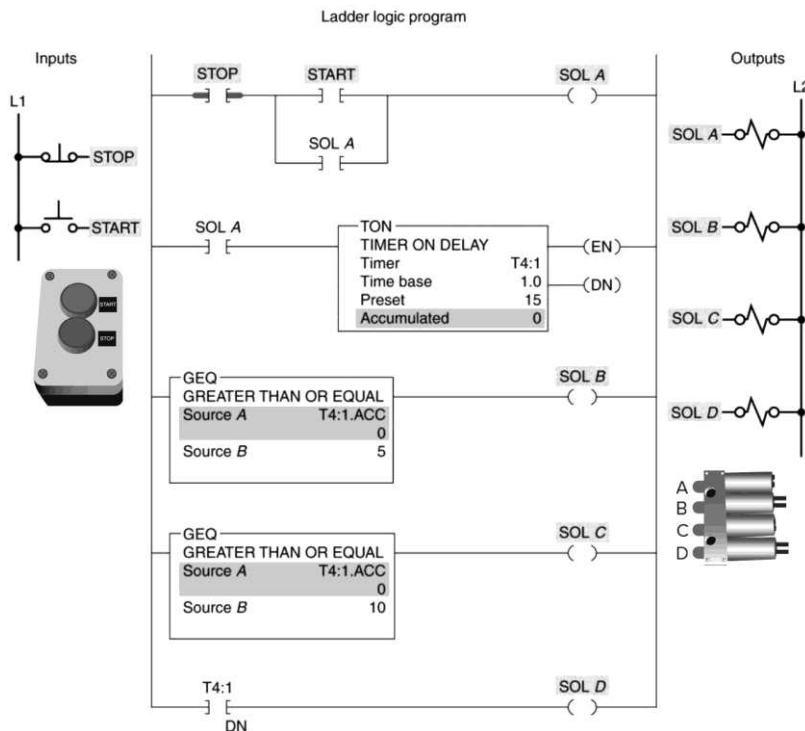

Figure 10-9 Timer program for question 16.
- 16-1. In the timer program of Figure 10-9, solenoid B is energized 16-1. ____